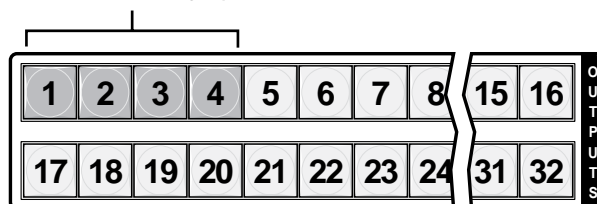

Figure 3-32 — Assign inputs and outputs
4. Press and release the Input 1 through 4 and Output 1 through 4 buttons (figure 3-32).